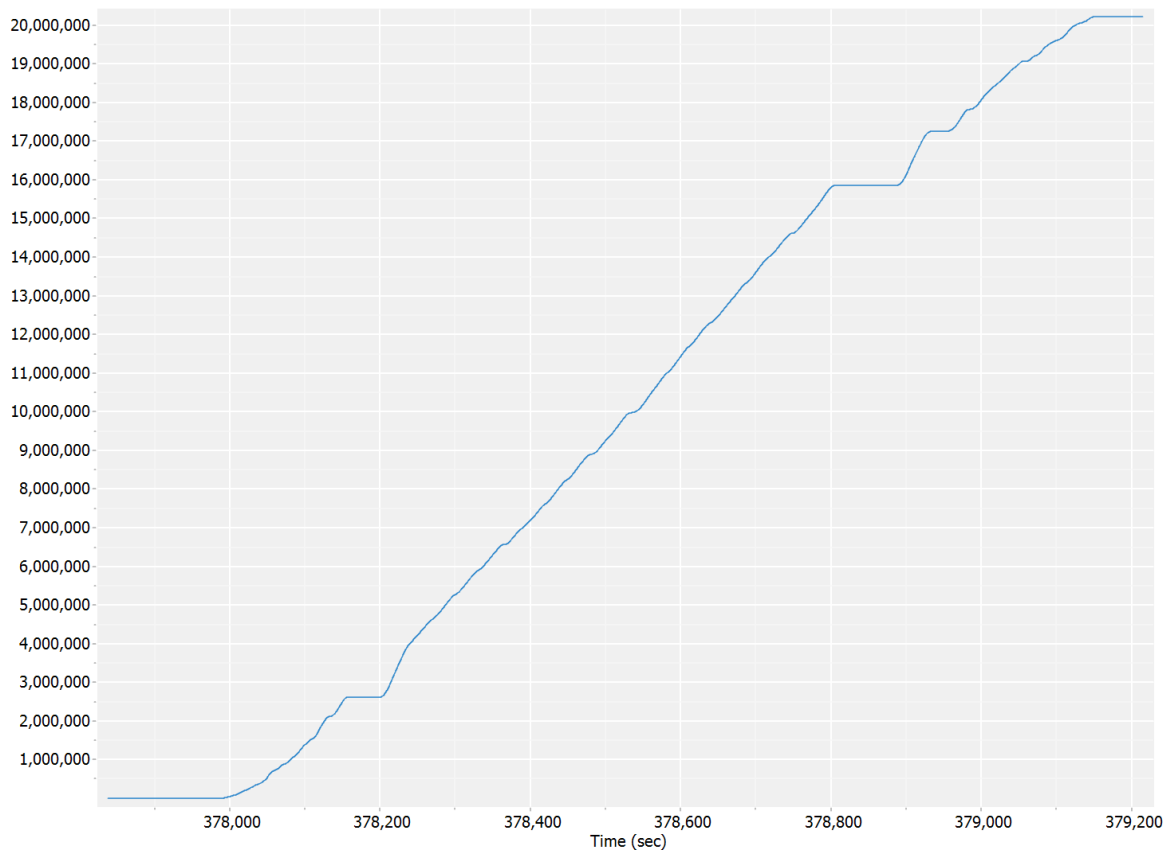

Fig 5: DMI Distance Traveled
- *Provides information if DMI worked or not (Fig 5)*